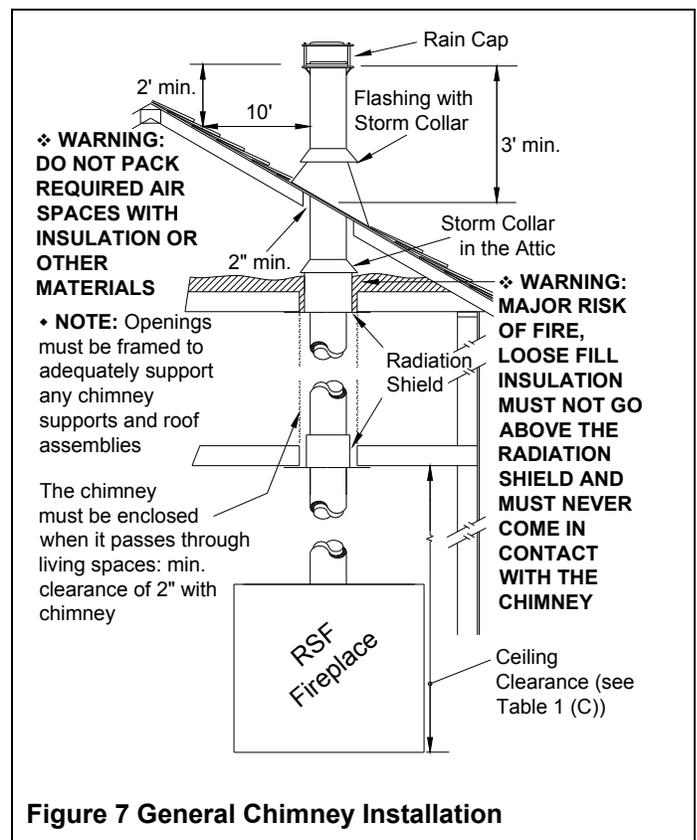

Figure 7 General Chimney Installation
2. From below, install a radiation shield in each floor through which the chimney passes. At the attic level, install a radiation shield and a storm collar as shown in Figure 7.